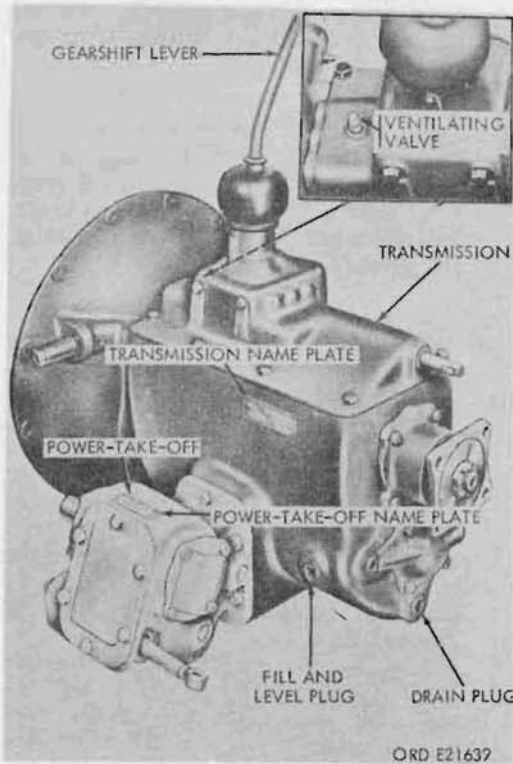

Figure 188. Transmission with power takeoff
a. Description. The transmission (fig. 188) is a manually shifted, selective gear type with five speeds forward and one reverse. It is mounted on and supported by the flywheel housing and includes part of the clutch (par. 149). Gear shifting is by transmission gear-shift lever.
2. Drain transmission. Remove the drain plug and remove the fill and level plug (fig. 188) from the transmission, and allow the oil to drain completely. Install the plug securely.
4. Remove transmission ventilating valve (fig. 188).
1. Install the transmission ventilating valve (fig. 188).